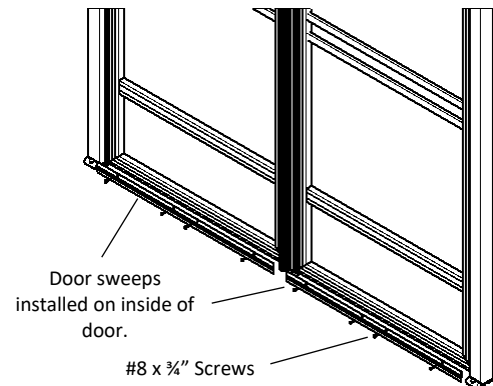

Fig. 13
- Door sweep will be installed after all other components are in place. (Fig. 13) Cut door sweep so that you have an equal amount of spacing between slotted holes on each end of door sweep. Use #8 x  $\frac{3}{4}$ " self-tapping screws placing them into the slots on door sweep and attaching into bottom inside of door.